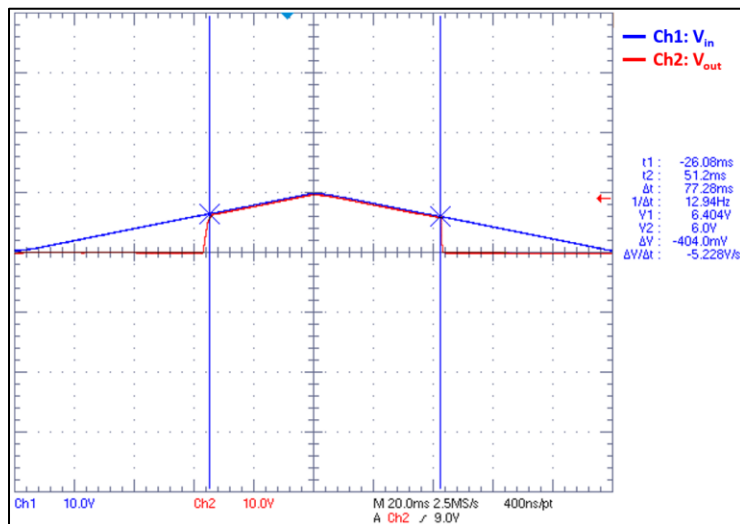

Figure 8. Slow Input Ramp to Show UVLO
- This device will automatically set the output to 0V when the input voltage is below 6V as can be seen in Figure 8 below.